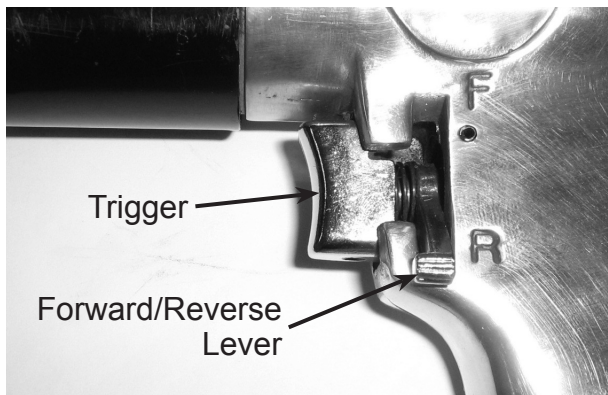

Fig. 1
1. Reversible feature controlled by the Forward/Reverse lever next to the power trigger. (See Fig. 1.) Move switch up toward "F" for forward and down toward "R" for reverse
**Note:** To reverse the drill's direction, flip the **Reverse Lever** on the handle down. (See Fig.1).
4. **To install the handle:** Slide the **Handle Ring (35)** over the **Clamp Nut (30)** in the desired position. Install the **Handle (34)** over the threaded portion of the **Handle Ring (35)** and tighten securely.
5. Insert the **Chuck Key (36)** into one of the holes in the **Chuck (32)** and turn it counterclockwise to open the jaws.
6. Insert the bit and hand tighten it, then tighten it with the **Chuck Key (36)** by turning it clockwise.